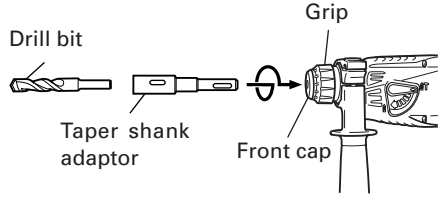

Fig. 13
- (1) Mount the taper shank adaptor to the rotary hammer. (Fig. 13)
- (2) Mount the drill bit (taper shank) to the taper shank adaptor. (Fig. 13)
- (3) Turn the switch ON, and drill a hole in prescribed depth.